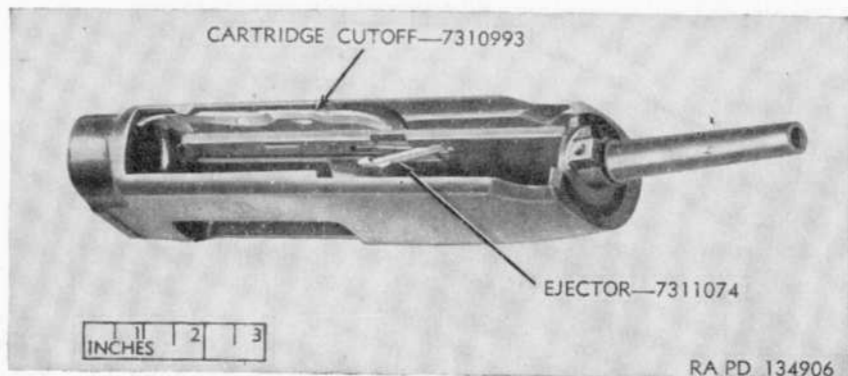
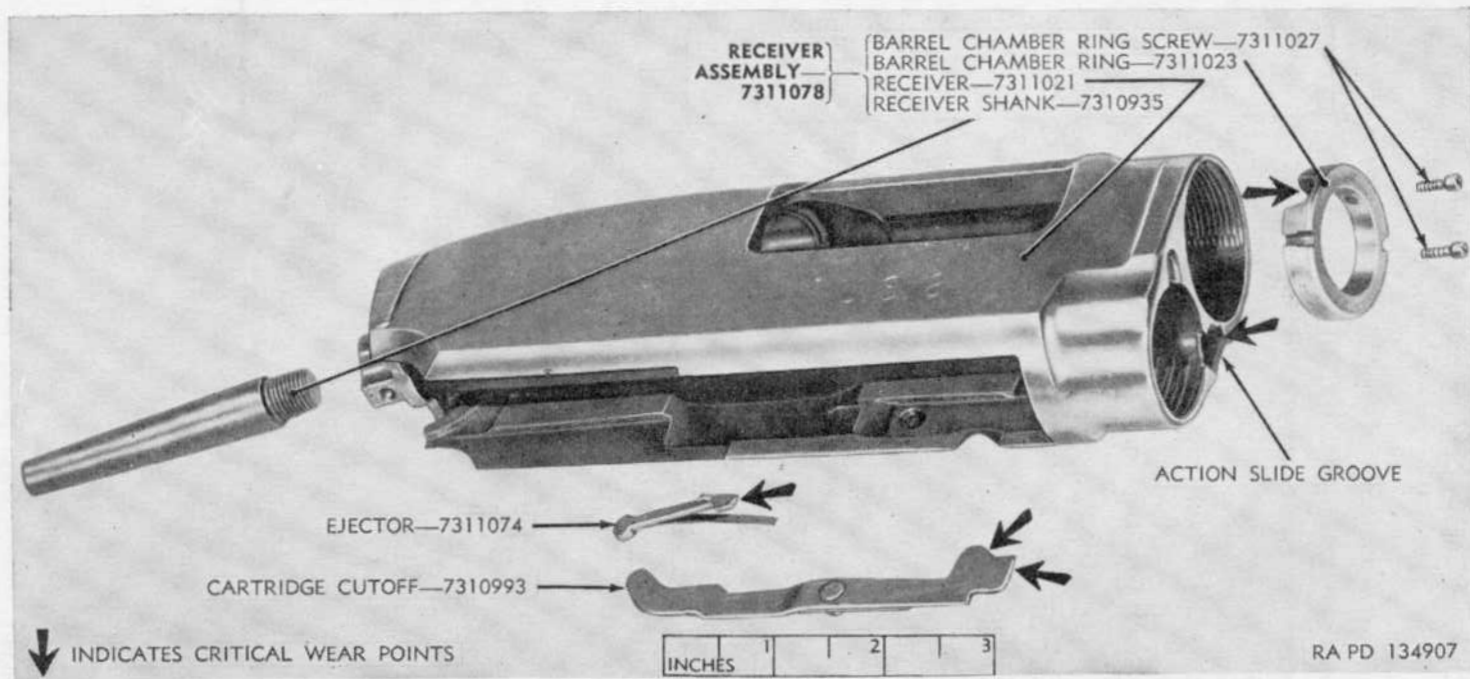

Figure 29. Receiver group for Winchester Shotgun M12.
Figure 30. Receiver group—exploded view.
a. Removal and Disassembly (fig. 30).
- (1) Remove the receiver group (fig. 29) as described in paragraph 35d.
d. Assembly and Installation (fig. 30).
- (1) Screw the receiver shank into the receiver and tighten with a wrench.
- (2) Install the receiver group (fig. 29) as described in paragraph 43a.